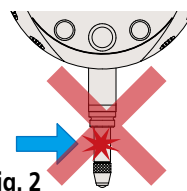

Fig. 2
1. Do not move the spindle rapidly nor apply force in the transverse direction, otherwise operation and accuracy may be adversely affected. (**Fig. 2**)